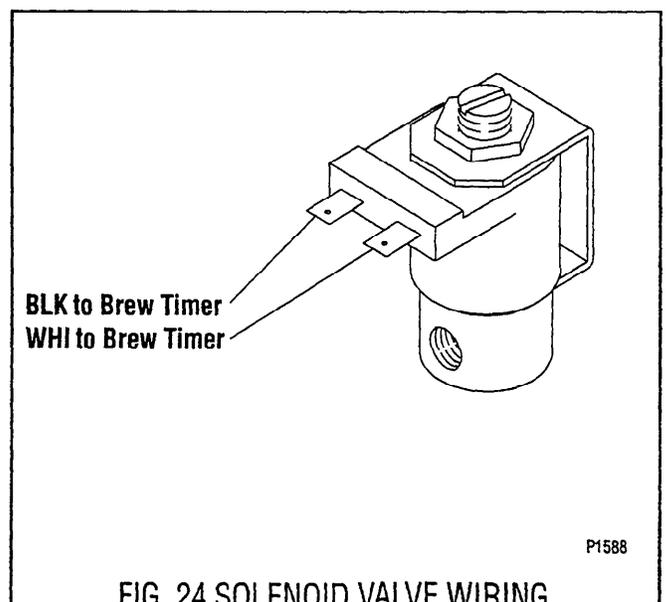

FIG. 24 SOLENOID VALVE WIRING
10. Refer to FIG. 24 when reconnecting the wires.